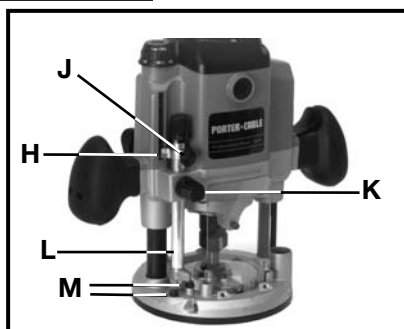

Fig. 11
1. Loosen depth rod locking knob (K) Fig. 11, and depth indicator knob, (J) Fig. 11, allowing the depth rod (L) Fig. 11 to contact one of the depth stops (M) Fig. 11.
3. Tighten the depth rod locking knob (K) Fig. 11.